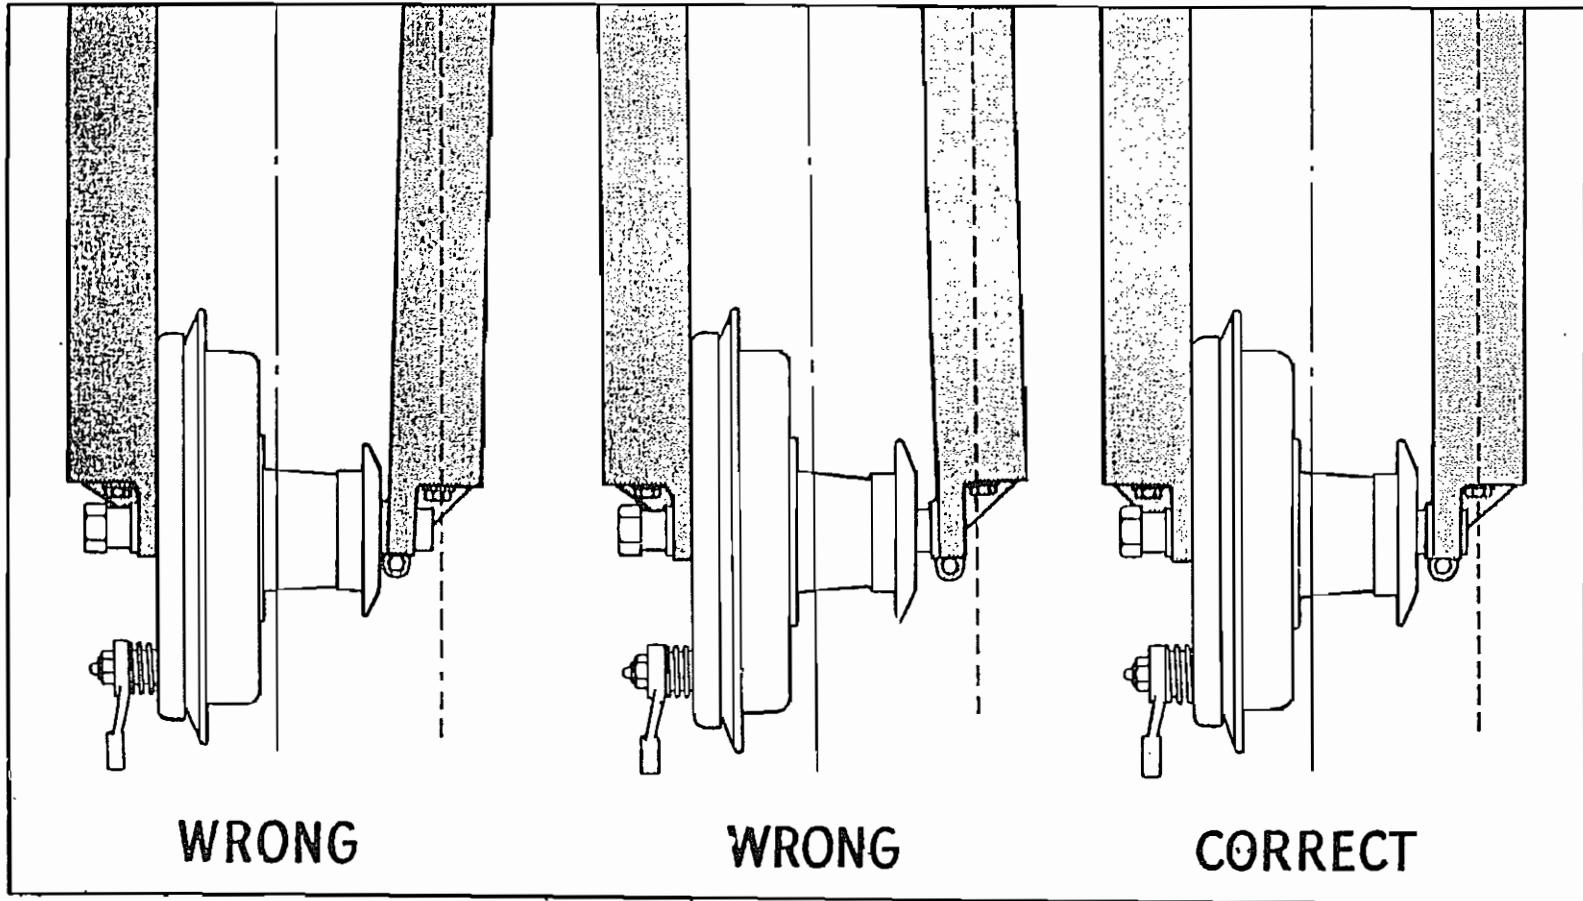

Fig. 45. CORRECT ALIGNMENT OF FRONT WHEEL IN FORKS
**If this procedure is not adopted, the fork action will be stiff and members distorted. (See Fig. 45).**